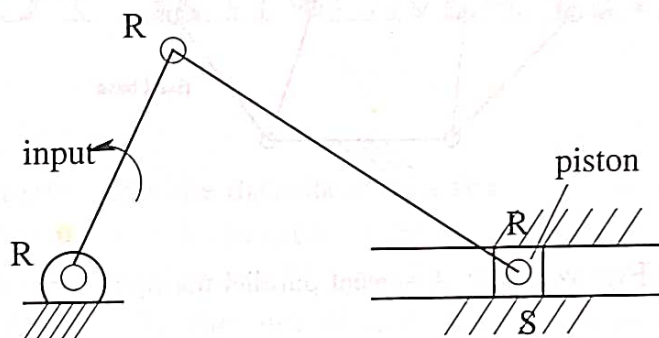

Figure 1.23: A slider-crank mechanism.
14. Fig. 1.23 shows the schematic view of a slider-crank mechanism. Determine its dof. Make comments on the result.